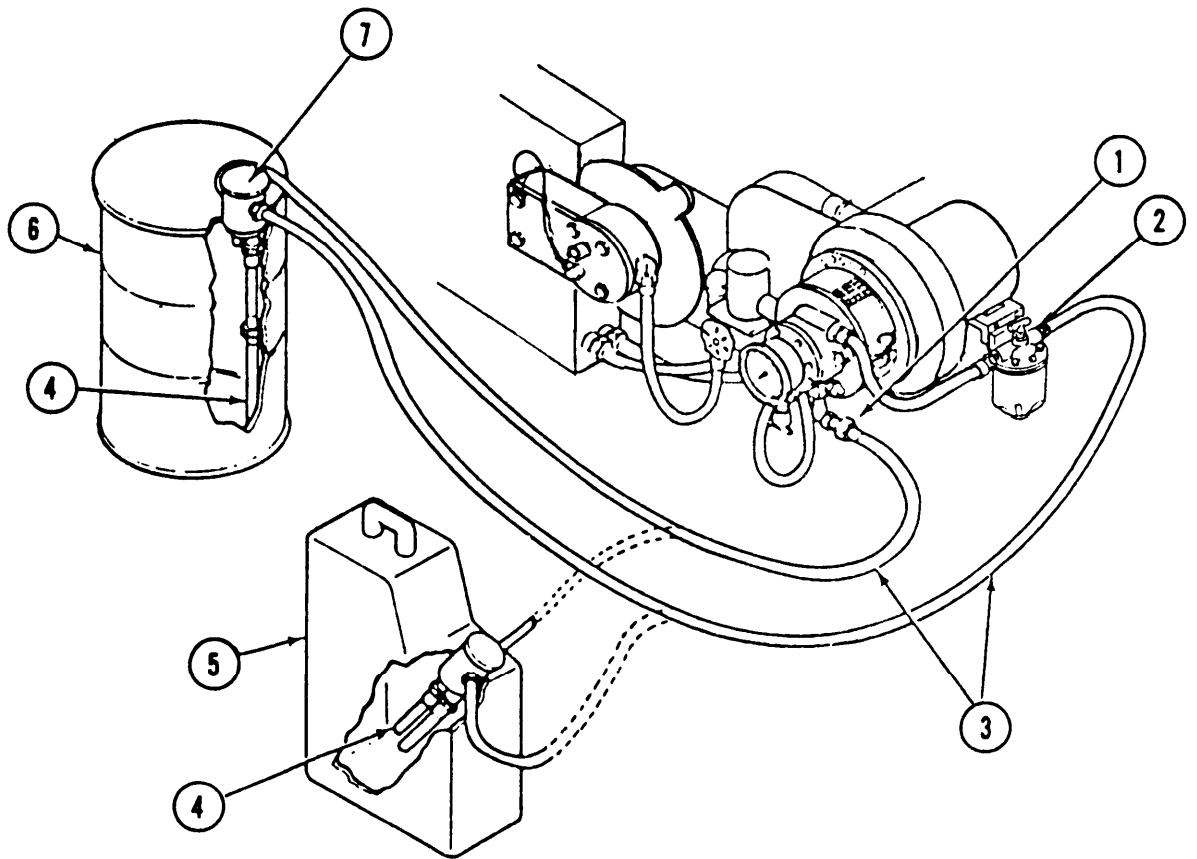

Figure 2-13. Dryer Fuel Line Connection.
- (1) Obtain two fuel lines (3, figure 2-13).
Be sure that fuel lines (3, figure 2-13) do not touch or cross water hoses, power cables, or exhaust ducts. Melting/damage can occur causing leaking fuel and water or electrical hazards. Death by electrocution fire, or explosion could result.